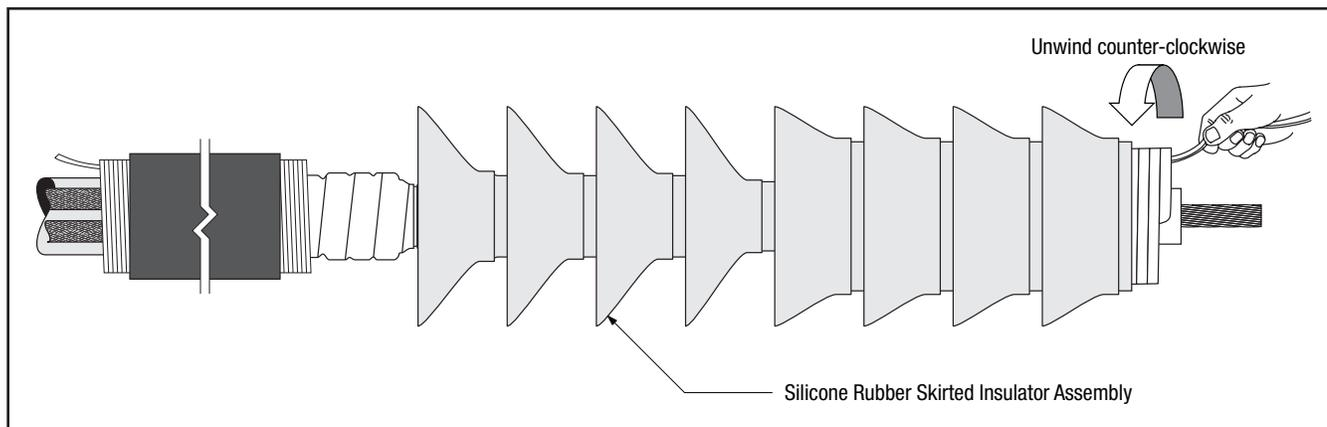

Figure 15
- 4.6 Slide the Silicone Rubber Skirted Insulator Assembly onto the cable. Align the assembly tube (not the core) with the end of the sealing mastic/constant force spring cover tape located 3" (76 mm) from the end of the cable semi-con, and remove the core by pulling the loose end while unwinding counter-clockwise. (Figure 15)